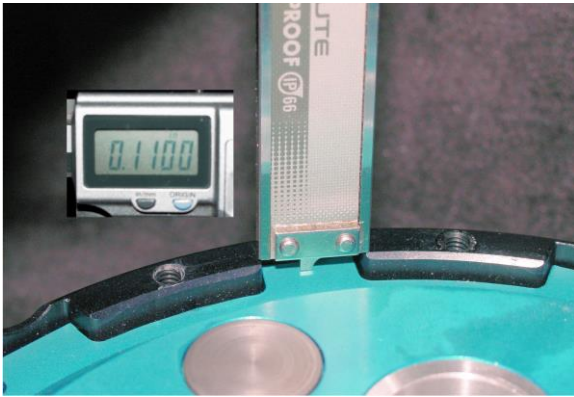
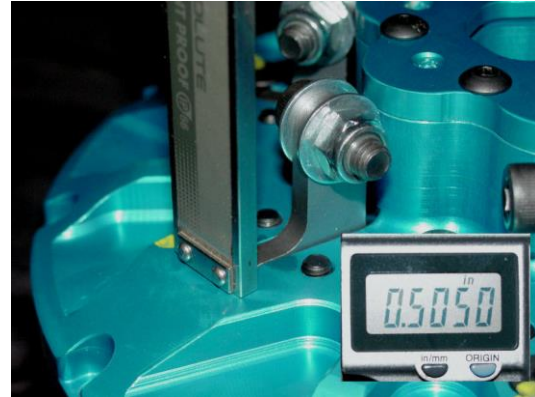

Fig. 1
Fig. 2
- D. Insert the pressure plate on top of the last fiber. The height from the top of the tang, on the pressure plate to the top of the basket should be approximately 0.110" (See Fig. 1). This will give you an air gap below your arms to the buttons of 0.110".
- E. Place the hat assembly on the basket and tighten the twelve (12) allen head cap screws to secure it.
- F. The air gap between the arms and the pressure plate buttons can be measured using the thin bottom section of a caliper. Stick the caliper rod into the slot opening just behind the arm (See Fig. 2) until it hits the top of the button on the pressure plate. Take a height reading to the top of the Gen II hat, this reading should be between 0.490"-0.510". This gives an air gap of 0.100"-0.120". It is better to start with an air gap of 0.100" to compensate for clutch wear. This technique can be used to maintain the air gap, after repeated runs, without removing any part of the clutch.